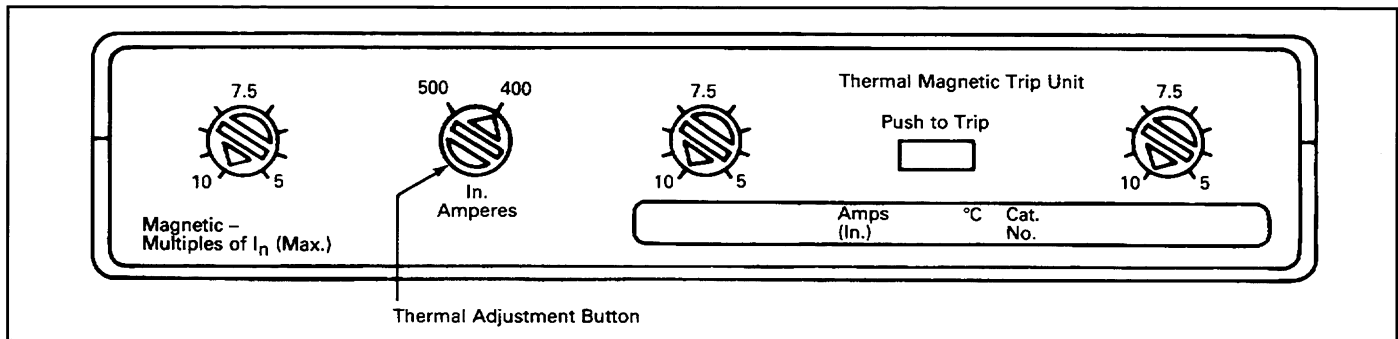

Fig. 2-3 Trip Unit Thermal Adjustment Button
**Adjustable Thermal:** Trip units having an adjustable thermal element are adjusted within the range shown in Table 1-2 with a single adjusting button (see Fig. 2-3).
In some trip unit types, the thermal rating ( $I_n$ ) of the trip unit can be adjusted by a single button (see Fig. 2-3) within the ranges indicated in Table 1-2.
- 2-12. Adjust thermal setting as required (see Fig. 2-3) by rotating the thermal adjustment button until the arrow on the button points to the desired setting.